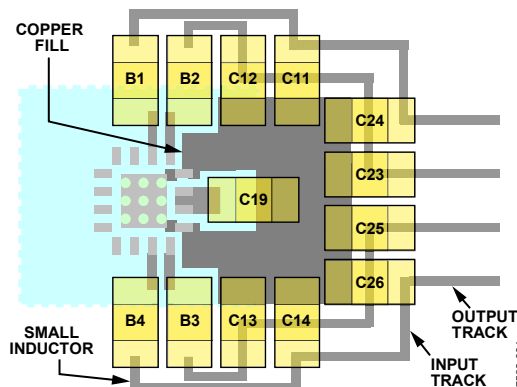
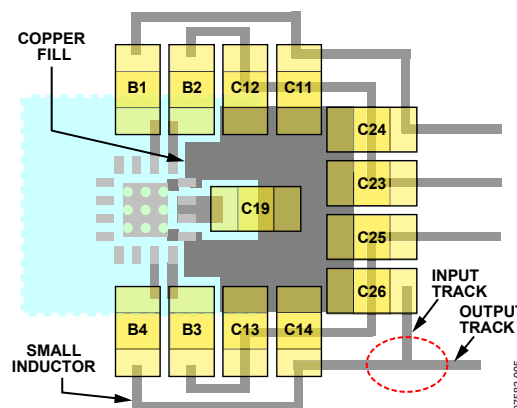

Figure 4. Placement and Routing for the Decoupling Capacitors
Figure 5. Incorrect Routing for the Output Decoupling Capacitor
3. Place the decoupling capacitors for the beads, C11, C12, C13, C14, C23, C24, C25, and C26, as close to the amplifier chip as possible, and connect all their ground terminals together as close as possible, as shown in Figure 4. The same principle applies to the decoupling capacitors for the inductors, C15, C16, C17 and C18, if they exist in the application design. Ideally, solder their ground terminals together; do not rely on PCB tracks or ground planes for connecting their ground terminals together.
4. Place the decoupling capacitor for the power supply, C19, as close to the amplifier chip as possible as shown in Figure 4, and connect its ground terminal directly to the IC ground pins, Pin 13 and Pin 16.
7. The 1 nF capacitor and the ferrite bead can block the EMI for up to 250 MHz. To eliminate EMIs higher than the 250 MHz, place a low value small size capacitor, such as 100 pF 0402 size, in parallel with the decoupling capacitors, C11, C12, C13, and C14. However, place this small capacitor a short distance away, at least 20 mm, from the 1 nF decoupling capacitor. Ideally, the ground terminals of these capacitors are connected to the ground terminals or the PCB traces, which are placed as close to the output loads (loudspeakers) as possible. In this way, the PCB connecting trace between these two capacitors serves as an inductor for filtering out the high frequency component, as shown in Figure 4.
13. The incoming and outgoing PCB tracks to the output decoupling capacitors should not be connected to each other. The correct layout is shown in Figure 4. An example of an incorrect layout is shown in Figure 5.